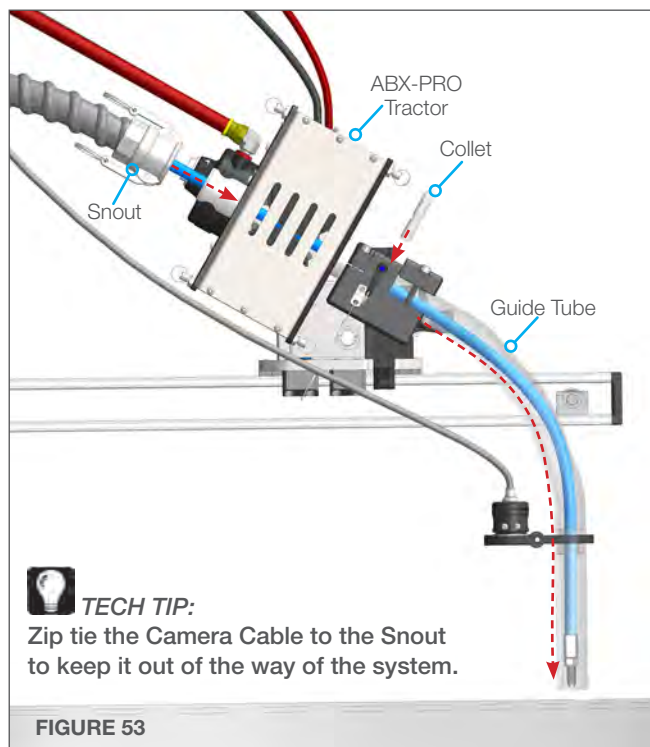

FIGURE 53
2. Remove the Collet from the Block and feed the end of the hose into and through the rollers of the ABX-PRO Tractor until it comes out the end of the Guide Tube. **(Figure 53)**
3. After the hose end is through the Guide Tube, insert the Collet back into the Block. Pull open the ring tabs on the Camlock end of the Snout, slide it over the ABX-PRO guide, and push the ring tabs back down on the Camlock to secure in place. **(Figure 53)**